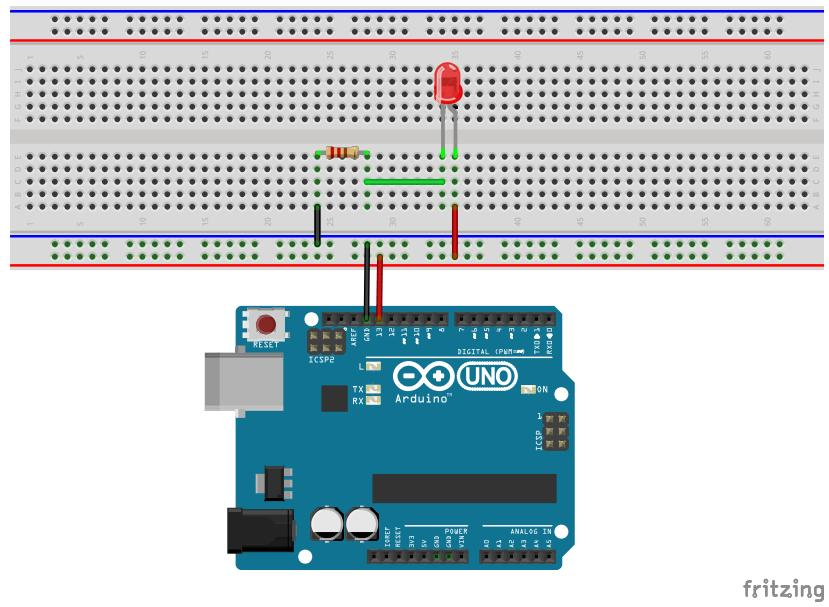

Figure 1.5: The Blink-LED Circuit with the Arduino Board.
2. Pick an LED and the corresponding resistor from Table 1.2, serial connect them on the breadboard as shown in Figs. 1.5 and 1.6. To close the circuit, connect one end to the GND pin and another end to the Pin 13 of Arduino.